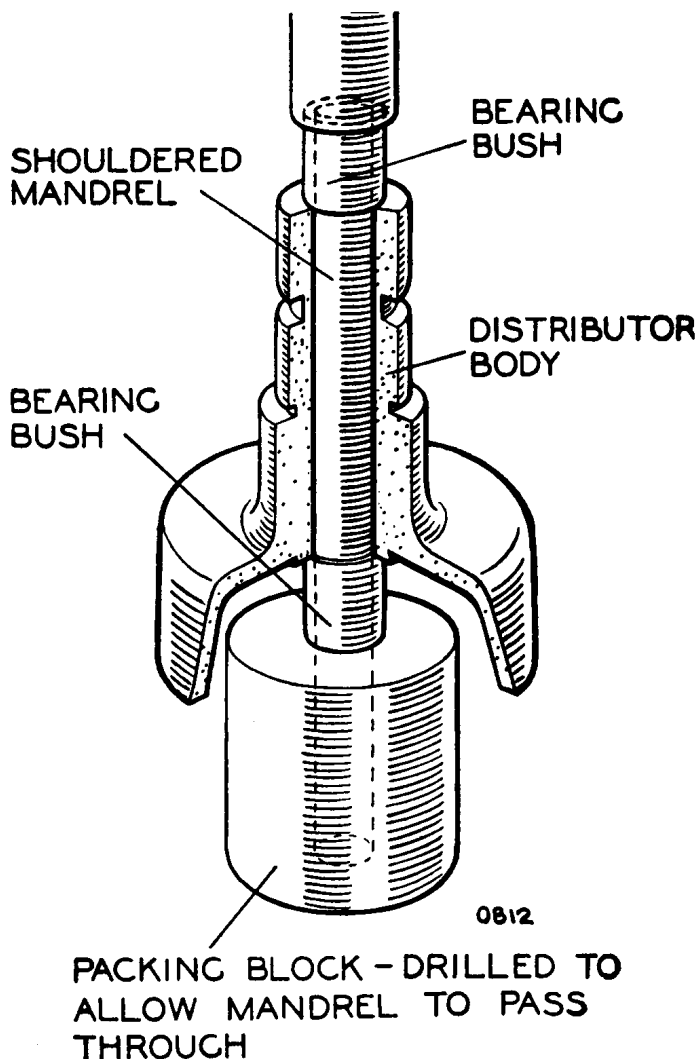

Fig. C.12
- (1) In order to ensure easy running of the distributor shaft when the shank has been rebushed the new bushes must be fitted so that they are in correct alignment. The bushes must be fitted by means of a vertical drilling machine or hand press, using a mandrel and a packing block of the type shown (Fig. C.12).
- (2) Fit the mandrel in the drilling machine or hand press and place the distributor body in an inverted position on the table below it.
- (3) To remove the bushes a sleeve must be fitted over the mandrel to build it up to the required size. With this sleeve fitted in position, force the old bushes out of the shank by applying a steady pressure. Before new bushes are fitted they should be allowed to soak for 24 hours in thin engine oil to Ref. F (page P.2).
- (4) Take the sleeve off the mandrel. Place one of the longer bushes on the mandrel, then the distributor body in an inverted position, and finally one of the smaller bushes.
- (5) Locate the end of the mandrel through the packing piece and press the mandrel downwards, taking care that both bushes enter the distributor shank squarely. Continue forcing the bushes into the shank until the mandrel reaches the end of its travel.